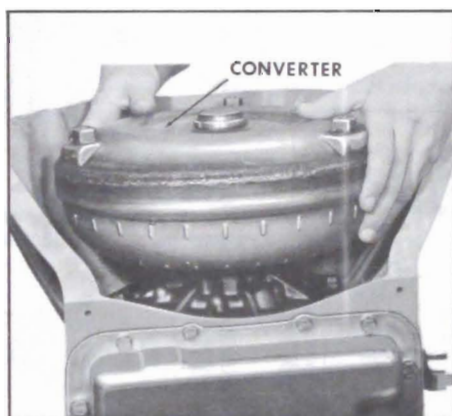

Figure 5-369
3. Install converter. See Figure 5.369.